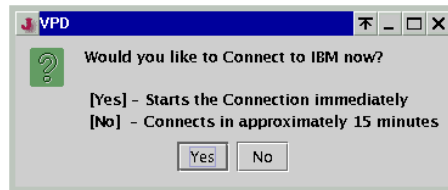

Figure 12-12 Service Agent: VPD transmittal
4. Click **Send VPD to IBM**. The confirmation window in Figure 12-12 opens. Click either **Yes** or **No**.